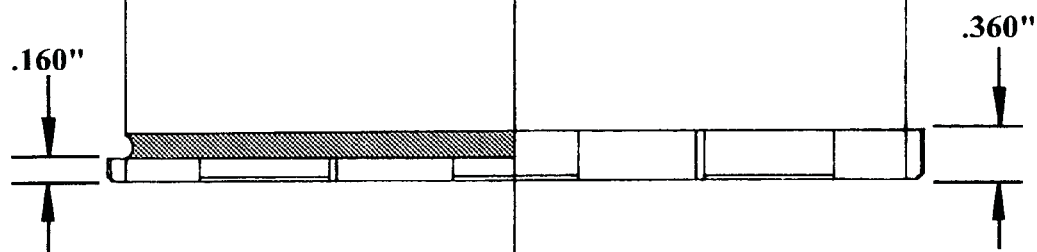
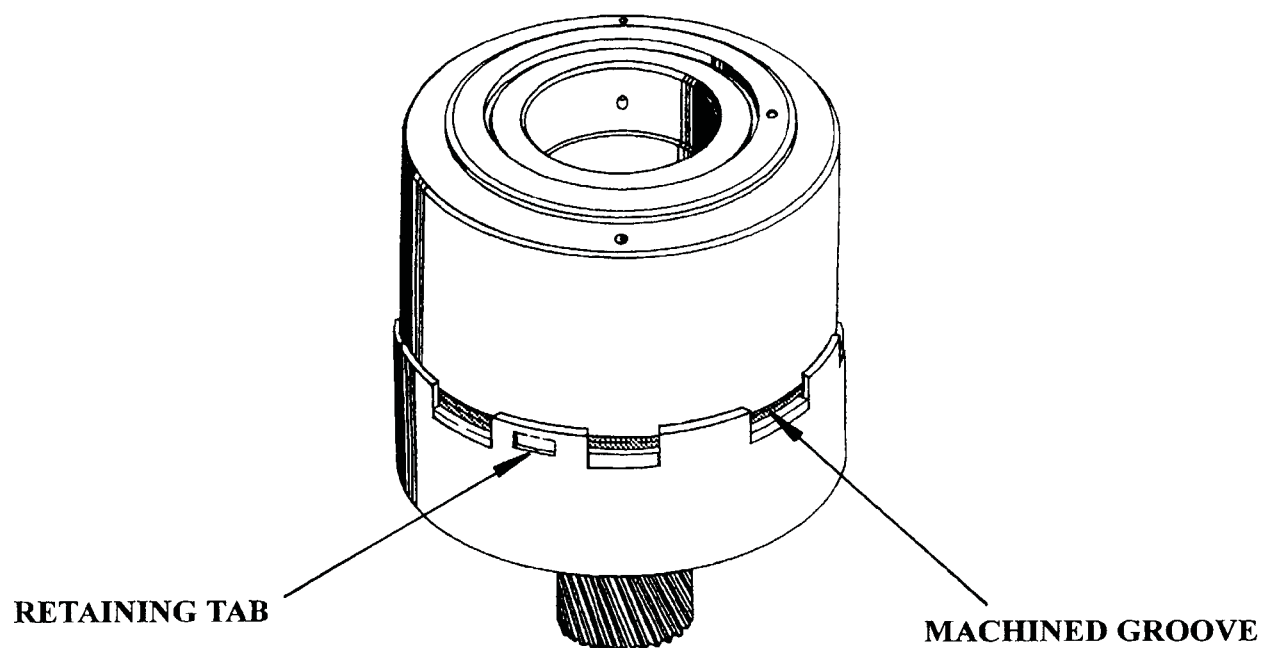

Figure 31
Figure 32
2nd Change: The "Lug" area where the direct clutch drum engages the sun gear shell, was machined approximately .200" thinner, and a .050" deep groove was machined into the drum to accommodate the added retaining tabs on the "Snap Shell" (See Figure 31). This now allows the sun shell and the direct drum to "Snap" together for easier assembly (See Figure 32). This change also allows the elimination of the number 4 thrust washer, located between the direct clutch drum and center support.
- (3) The new design "Snap Shell" must only be used with the direct clutch drum that is machined to accept the retaining tabs (See Figure 31 and 32).
- (4) The "3rd Design direct clutch drum **WITH** the machined groove for the "Snap Shell" **WILL** retro-fit back to **ALL** previous models that do not use "Snap Shell" (Figure 31). The "1st Design" stamped steel direct clutch drum is not recommended for use.